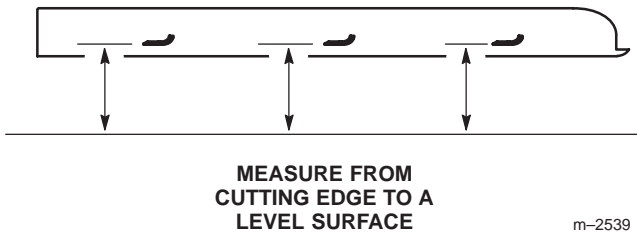

Figure 29
1. Rotate the blades until the ends face forward and backward (Fig. 28). Measure from a level surface to the cutting edge of the blades (Fig. 29). Note this dimension.